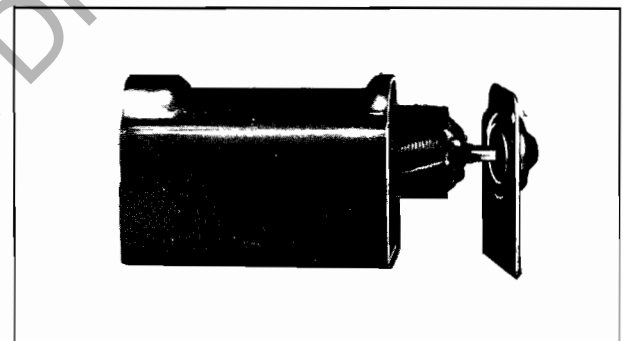

FIGURE 22
5. Move brushes away from armature commutator and remove armature and end cap from frame and field assembly. (Figure 22)